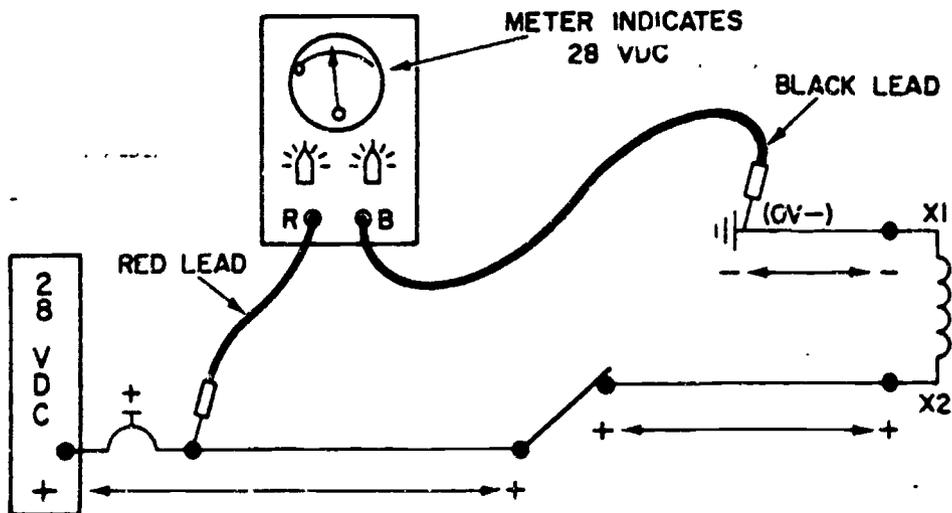
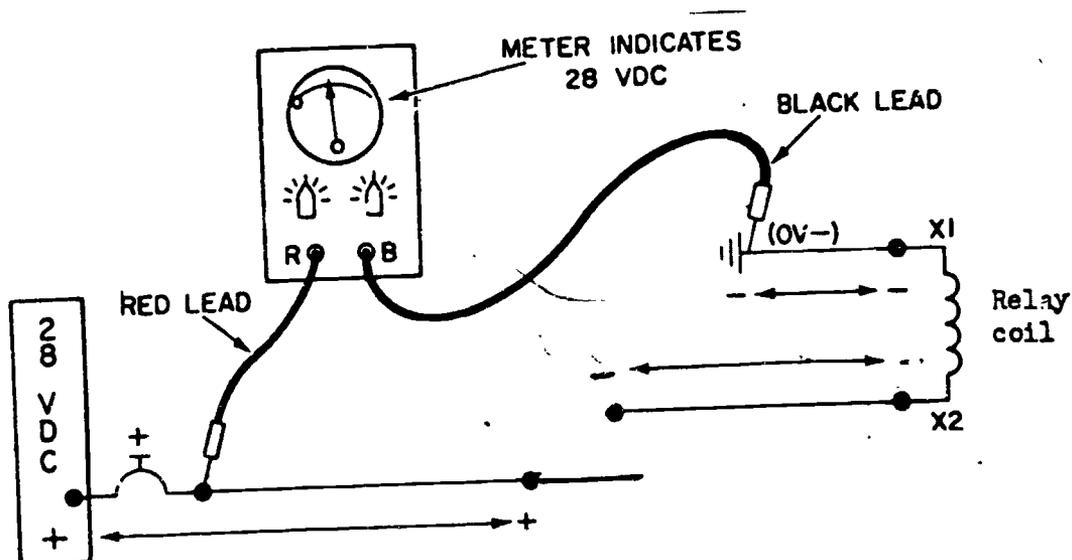

Figure 4.
Figure 5.
d. Now let's see how the meter MUST be connected to the circuit to get a voltage reading. In figure 4 note that the black meter lead has been placed at the common ground point, further note that the RED meter lead is placed at the circuit breaker checkpoint.
(1) The voltmeter in figure 4 will now indicate a reading of 28V DC. Why? This is because of the distinct difference between the (+) and (-) points caused by the resistance (relay coil) between the two meter test points in the circuit. This voltage reading is obtained with power on.
(2) In figure 5 there is infinity resistance in the open contacts of the switch. The open in the switch is a NORMAL condition if the switch is turned to the OFF position. This causes the meter to read 28V DC as shown in figure 5. Remember back in figure 4 the meter also read 28V DC. This was with the switch closed and the reading was caused by the resistance of the load (relay coil).
Note: Compare the polarities (+) and (-) on X2 from figures 4 and 5. They changed because of the switch position.